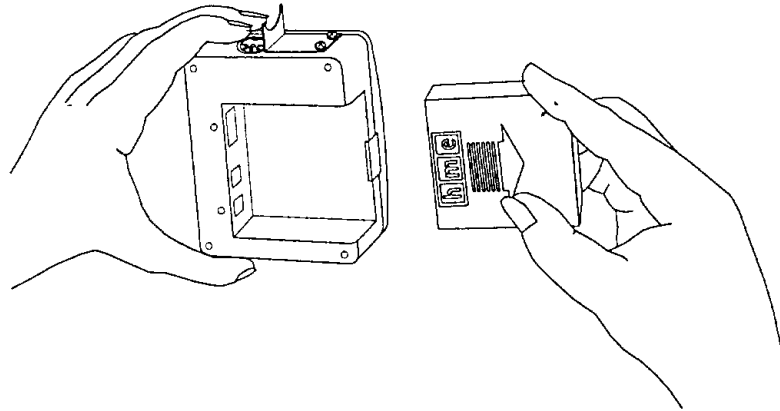

Figure 6. Installing the battery
- Install a fully charged NiCd battery in the battery compartment with the arrow on the battery pointing out as shown in Figure 6. Slide it into the tracks on both sides of the compartment until its catch clicks securely in place.